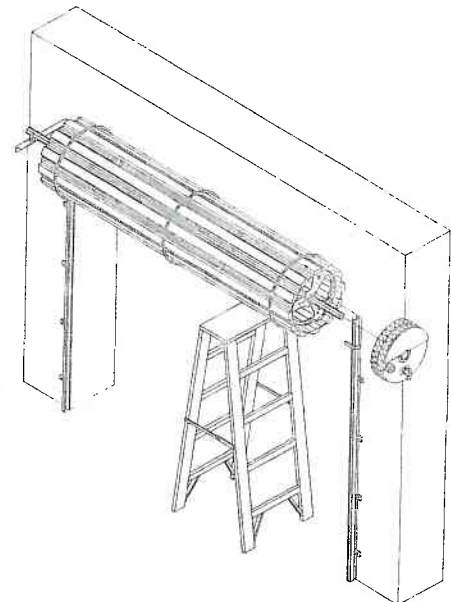
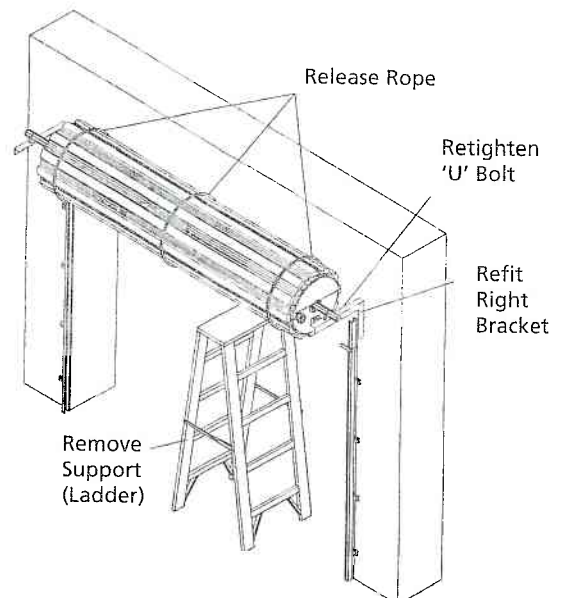

Fig. 3
Fig. 4
- Make sure the door supporting prop is secure. While the door is supported remove the right hand wall mount bracket. (Fig. 3)
- Remove the geared motor (27) and motor spacer (28) from the packaging material. Align the spacer over the three motor mounting holes and insert the motor assembly between the spoke sections of the drum wheel. Align the assembly with the three counter sunk holes in the spoke section, Affix with screws supplied 3 X (6x25mm counter sunk) using an appropriate flat bladed screwdriver. (Ensure the motor assembly is securely fixed to the drum wheel before proceeding)
- Remove the motor shaft screw and slide on the main drive gear (10), refit the shaft screw and tighten.
- Slide the Main Ring Gear (32) over the door axle and engage teeth with the motor drive gear.
- Slide main body (2) over door axle, make sure the manual release pin (23) is in manual position. locate contact brushes (25) into inner and outer slip ring (7,8)
- The Main Body should now be sitting flush up against the Ring Gear. Attach Split Ring (9) to Slip Ring extrusion and secure split ring self tapping screw. (6 3/8)
- Replace right hand side wall mount bracket (Fig. 4)